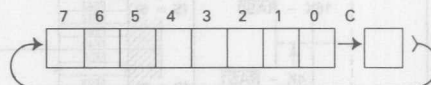

FIGURE 14 — MEMORY MAP (TYPE #0)
For most applications, the SAM plus a "1 of 8 decoder" chip completely decodes I/O, ROM and RAM chip selects without wasting memory address space and without needlessly chopping-up contiguous address space. Chip selects are positioned in address space to allow three types of memory (RAM, local ROM and cartridge ROM) independent room for growth. For example, RAM may grow from address \$0000-up, cartridge ROM may grow from address \$FEFF-down and local ROM may grow from \$BFFF-down. Alternately, if the application requires minimum ROM and maximum contiguous RAM, a second choice of two memory maps places RAM from \$0000 to \$FEFF. (See Figures 14–16.)
Refer to Figures 14–16 for details. Early versions of the LS783 did not allow the "Fast" MPU rate to be used in conjunction with Map Type "TY = 1." Devices manufactured after January 1, 1983 allow both "Fast" and "Slow" MPU rates to be used with Map Type "TY = 1." (Date of manufacture is marked on devices as YYWW where YY is the year and WW is the week of manufacture).
Any bit in the control register (CR) may be set by writing to a specific unique address. Each bit has two unique addresses . . . writing to the **even #** address **clears** the bit and writing to the **odd #** address **sets** the bit. (Data on the data bus is irrelevant in this procedure.) The specific addresses are tabulated in Figures 14–16.